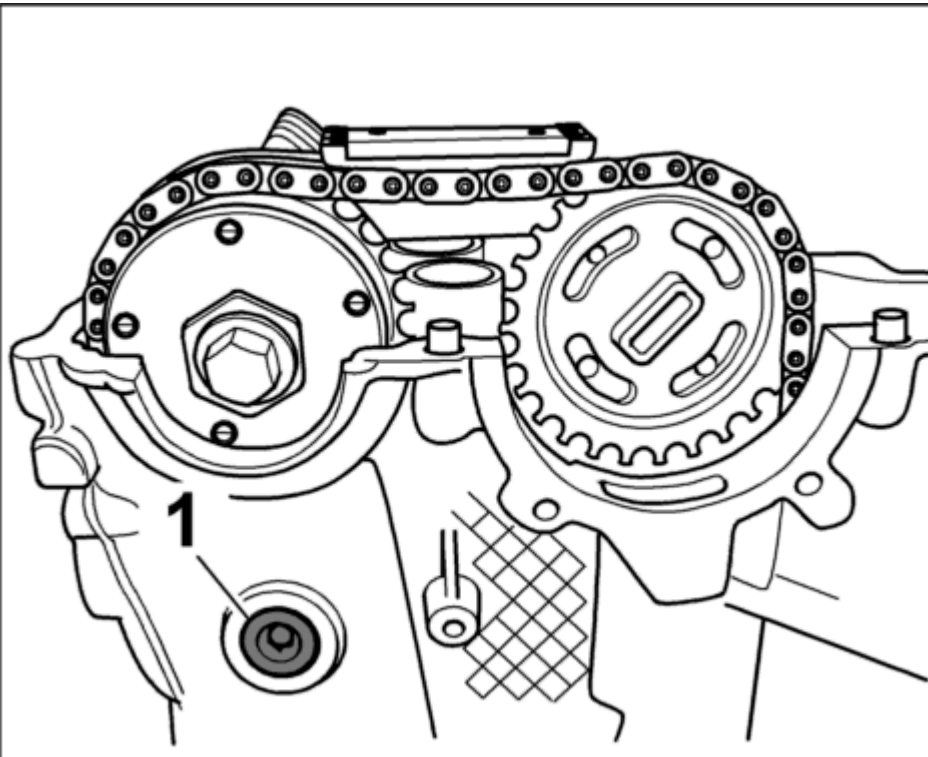

Fig. 176: Guide rail screw for cylinders 1-3
6. Fit threaded bolt for guide rail -1- with a new O-ring at the cylinder head. --> **Tightening torque: 10 (7.5 ftlb.) Nm** . See **Fig. 176**.